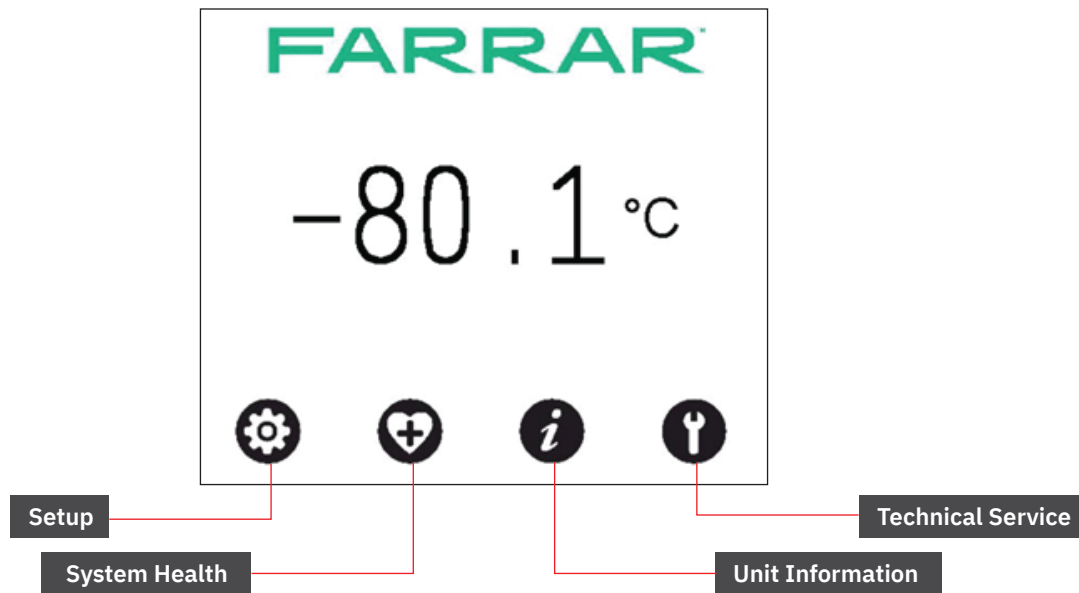

Figure 9: Home Screen
2. The door mounted displays will turn on and display the **HOME** screen, as shown in Figure 9. The current interior chamber temperature will display.